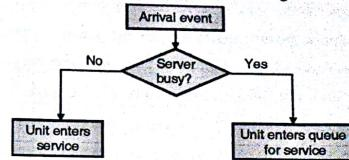

Fig. 2.2.3 : Arrival Event
- The flow diagram for the arrival event is as shown in Fig. 2.2.3 :